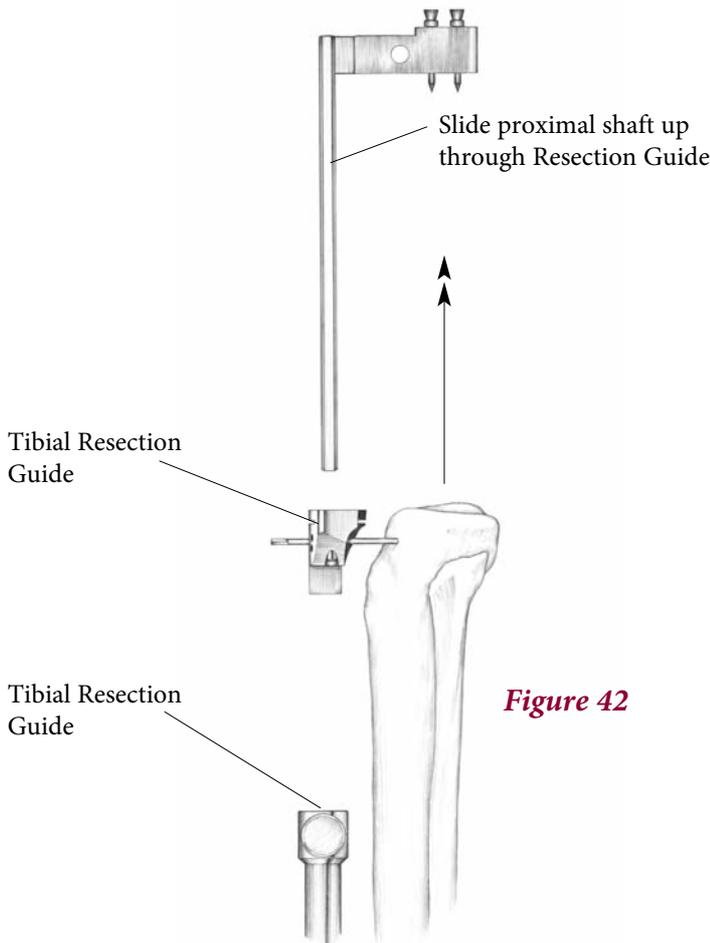

Figure 42
- ▶ Remove the proximal shaft of the alignment guide by sliding it up through the top of the resection guide (**Figure 42**).